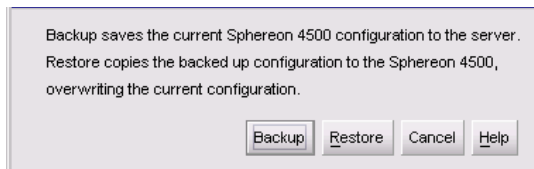

Figure 4-62 Backup and Restore Configuration Dialog Box
3. Select the *Backup & Restore Configuration* option from the *Maintenance* menu. The *Backup and Restore Configuration* dialog box displays (Figure 4-62).